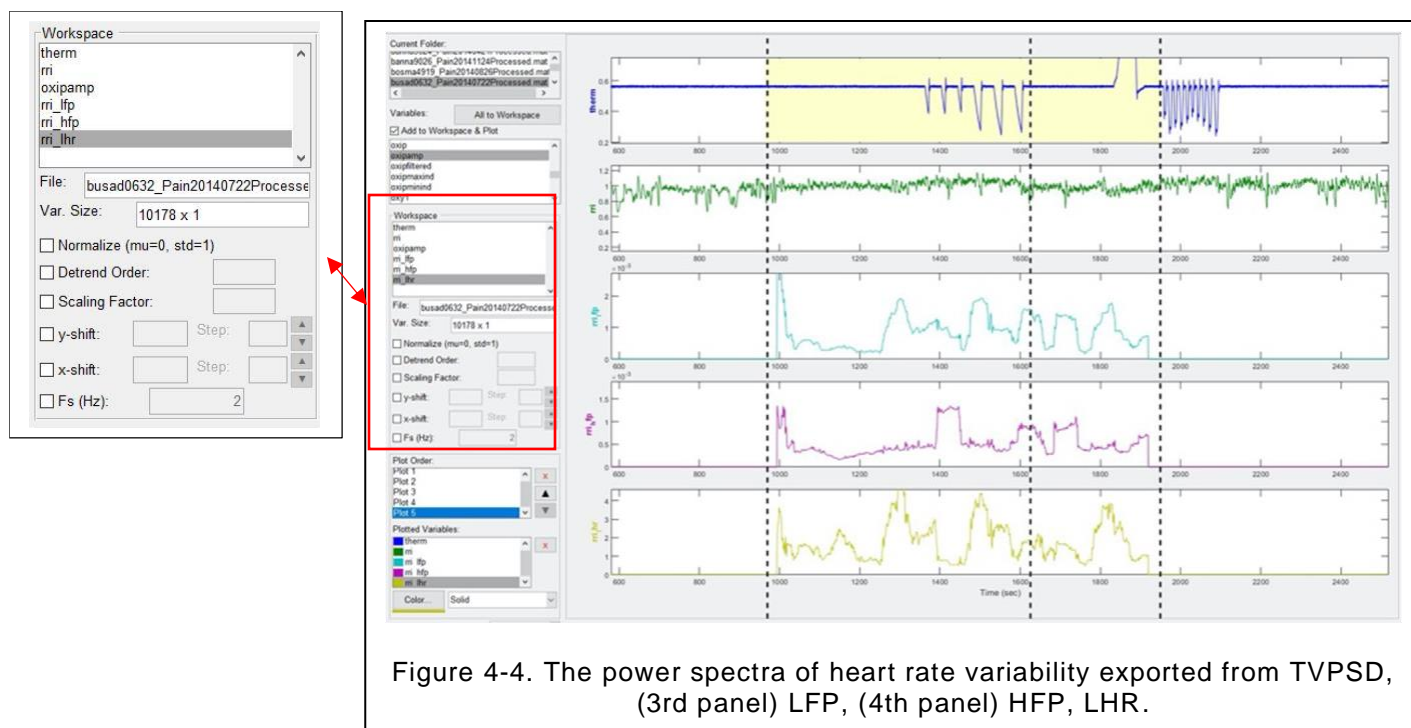

Figure 4-4. The power spectra of heart rate variability exported from TVPSD, (3rd panel) LFP, (4th panel) HFP, LHR.
Under 'Data Range' panel, we selected the tag we recently created to calculate power spectrum of the signal within that tag region. In order for the module to calculate LHR, we also selected the low-to-high frequency ratio (LHR) checkbox to plot LHR spectrum in addition to the low- and high- frequency power spectra. After we pressed Compute PSD, three power spectra were plotted along the time-axis. The plots can be exported to Data Browser by pressing 'Save' button. Then, the TVPSD module will automatically generate new variables named `rri_lfp`, `rri_hfp` and `rri_lhr` in the workspace of Data Browser. Note that, these new variables are sampled at 2Hz. To plot the spectra (Fig 4-4), double-click a variable from the workspace and correct the sampling frequency to 2Hz if needed.
- The spectral components for the n^{th} sample is estimated using the data points 30-second before and after the n^{th} sample. The power spectrum will is always zero in the first and the last 30 second of the analysis tag (Fig 4-4).